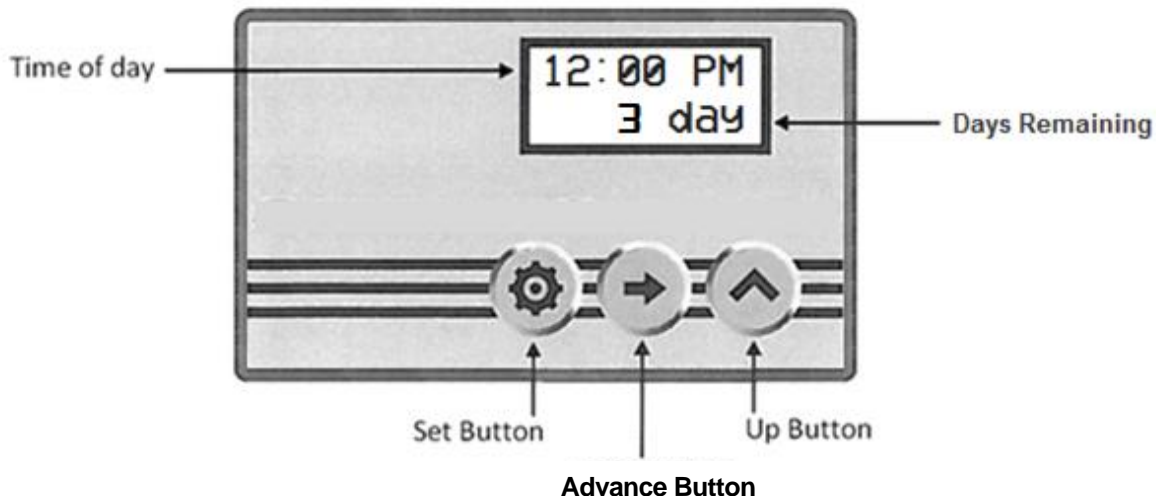

FIGURE 8: FEB Display Panel
FEB ONLY: advance the control valve to the “Service” position (Figure 8, Page 11) by briefly pressing the middle button (ADVANCE) briefly and then repeating as each countdown timer begins, until the time of day is displayed.
FEB ONLY: Set the current time of day by pressing the far left button (SET) and using the far right button (UP) to set the time and the middle button (ADVANCE) to move between hour, minutes and AM/PM. Refer to Figure 8, Page 11.